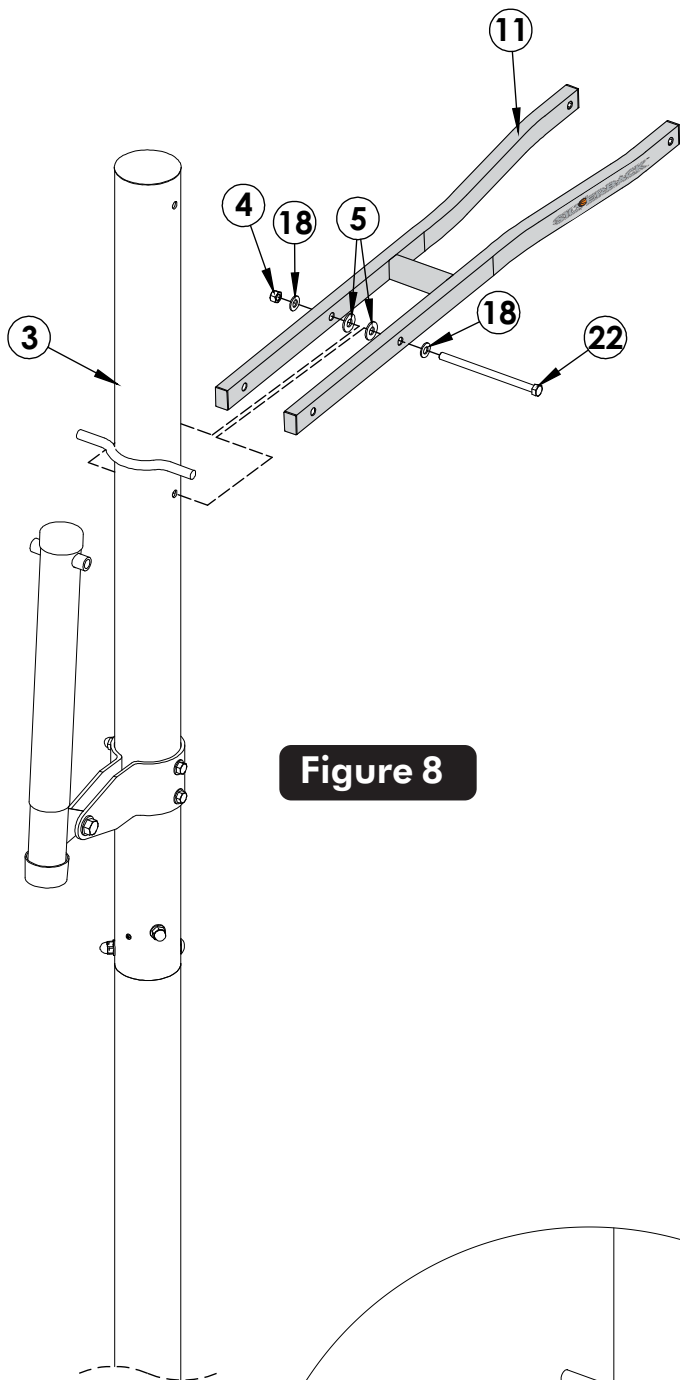

Figure 8
17. Attach lower arms (#11) to top pole (#3), as shown in **Figure 8**, using a hex bolt (#22), two flat washers (#18), two plastic washers (#5) and lock nut (#4).